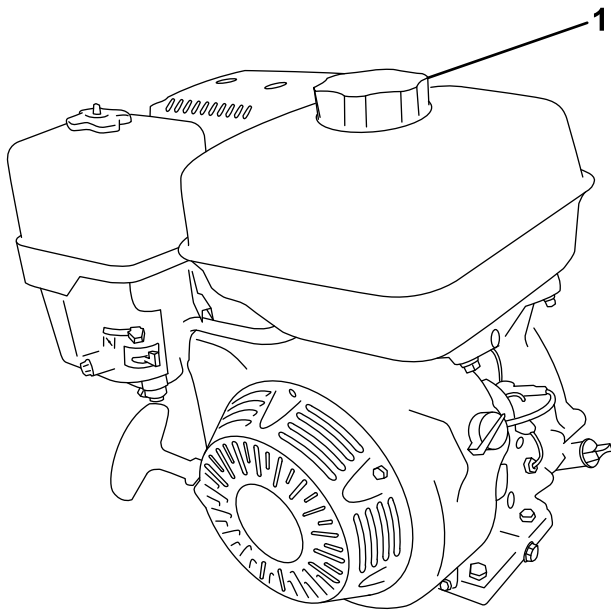

Figure 15
2. Clean around the fuel cap and remove it (Figure 15).
4. Install the fuel cap securely (Figure 15).